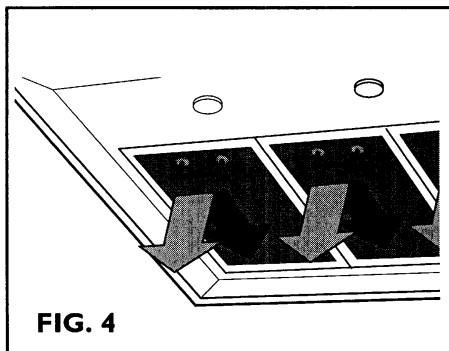

FIG. 4
- Push each handle towards the center and pull downwards. Fig. 4.